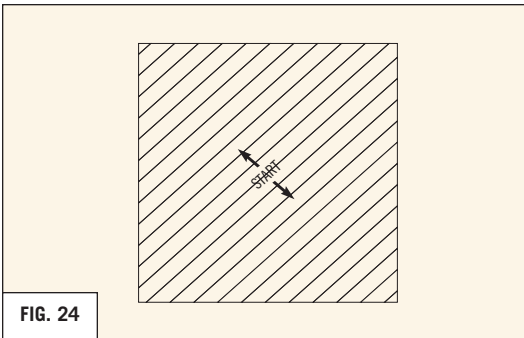

FIG. 24
- In order to install diagonal decking, we recommend installing the longest deckboards first, followed by the shorter deckboards working towards the corners (REFER TO FIG 24).